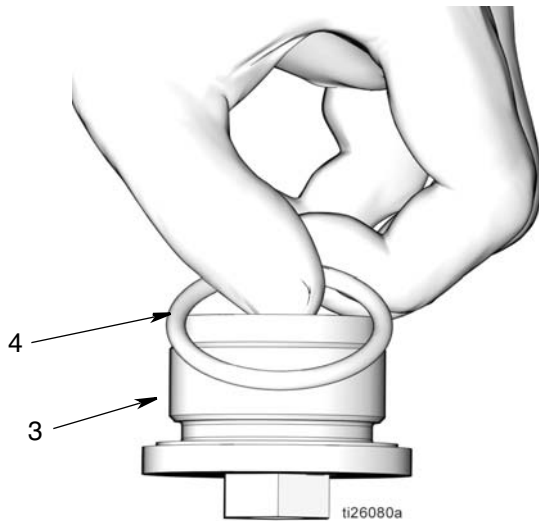

FIG. 56
- d. Apply a thin layer of grease to o-ring (4). Install o-ring to piston stop nut (3) (FIG. 56).